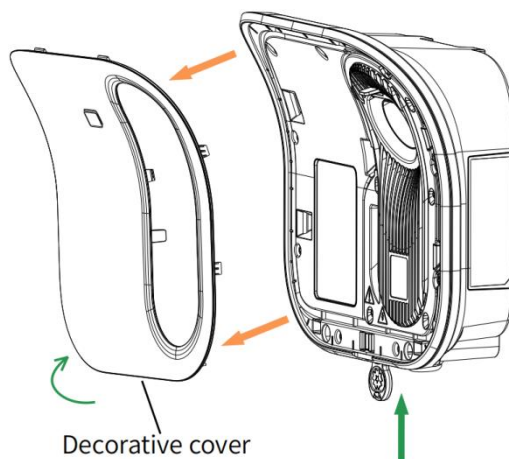

Figure 4-10 Remove the decorative cover
- (3) Use the cover key to open the decorative cover of the EVSE, hang the EVSE on the top two extended screws, and insert the two self-tapping screws at the bottom through the front screw mounting hole of the EVSE to fix the EVSE, as shown in Figure 4-10 and 4-11.